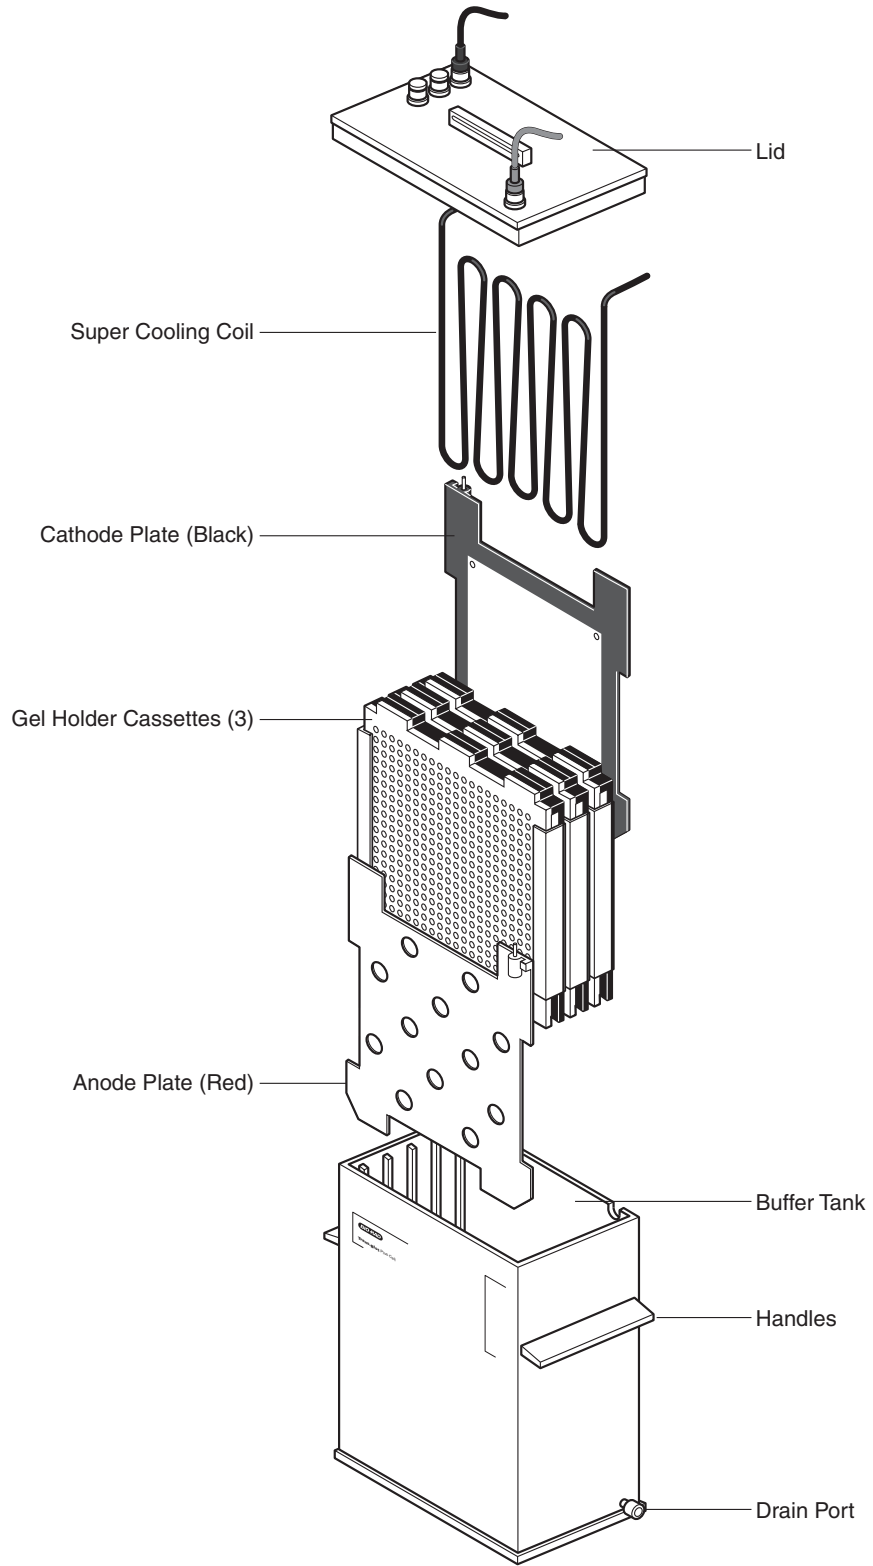

Fig. 1.
2. Position the anode (red) electrode card into the tank, in the slot that is nearest the front face of the tank (see Figures 1 and 2). **This is the only position possible for the anode plate since it is the only position that will provide a connection between the plate electrode and the anode leads in the lid.** Tighten the electrode card in place with the white nylon screw.